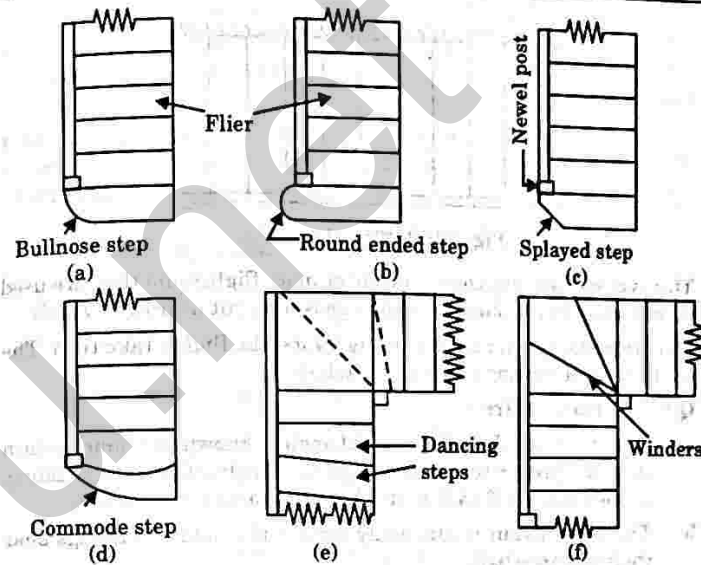

Fig. 3.13.1. Various types of steps.
5. **Commode Step :** A commode step, as shown in Fig 3.13.1(d), has curved tread and riser.